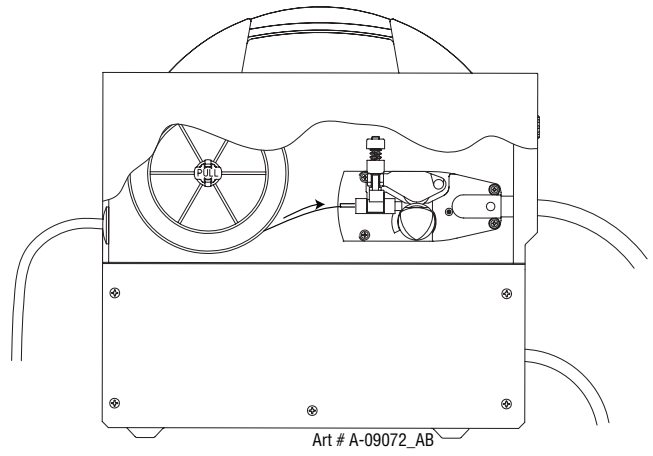

Figure 3-6: Wire Installed
7. Close the Pressure Adjust Device. Tighten it to a "snug" condition (Fig. 3-6).
8. Figure 3-6 shows the result with the wire installed.